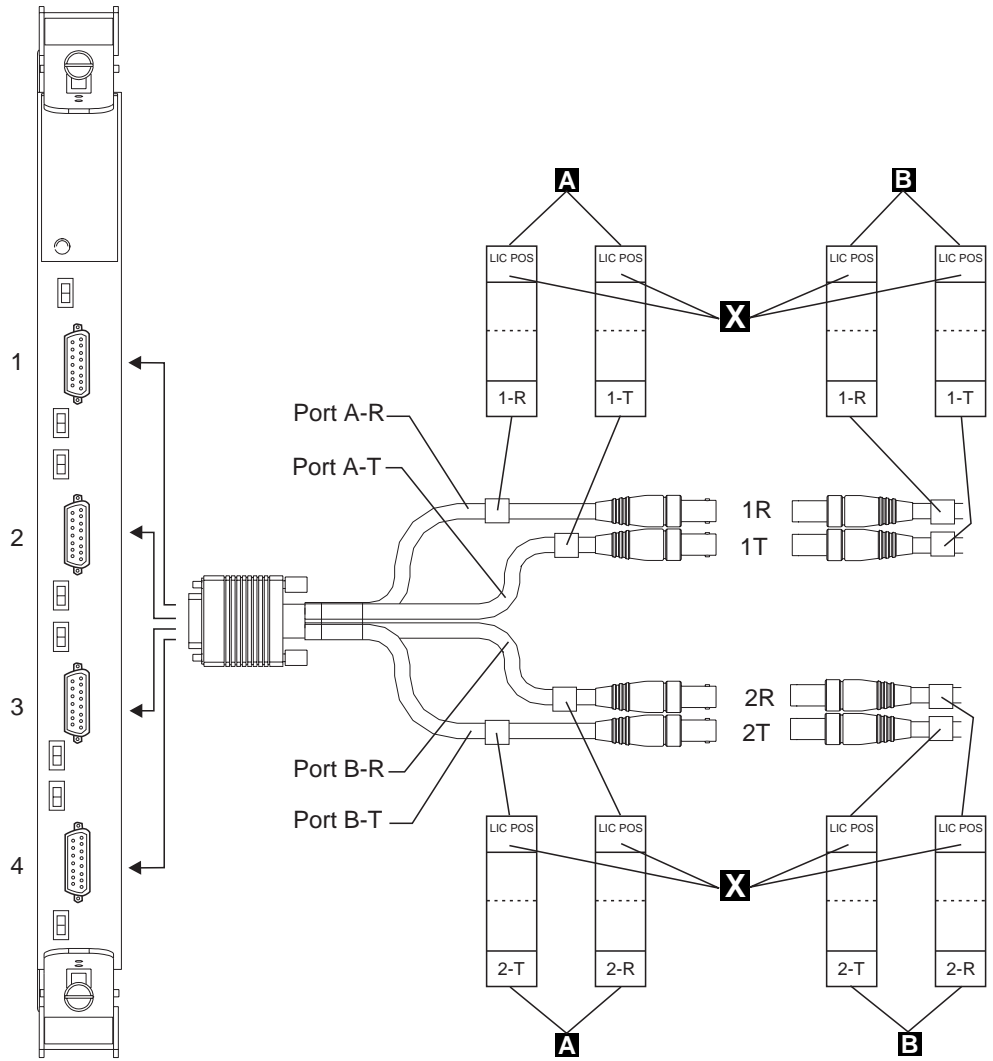

Figure 6-18. Identifying the Cables Connected to LIC 545
2. \_\_\_\_ Refer to Table 6-24 and Figure 6-18 on page 6-25, obtain labels PN 80G2224 from shipping group and record manually the LIC position (1 to 8) on these labels **X**. On the first Y cable to be plugged into LIC connector 1, stick the labels **A** (1-R) and (1-T) on the cable leads identified as (Port A-R) and (Port A-T) and (2-R) (2-T) on cable leads (Port B-R) and (Port B-T). Identify the corresponding external cables with labels **B** (1-R) (1-T) and (2-R) (2-T). Repeat the same procedures for the other cables using labels from (3-R) (3-T) to (8-R) (8-T).